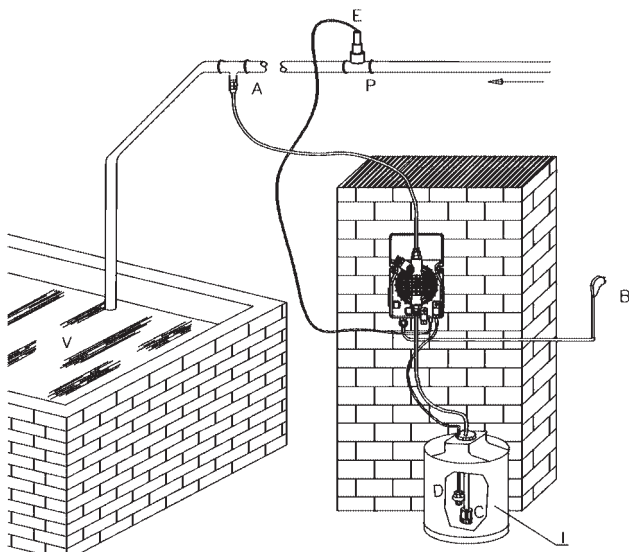

Fig. 16
7.2 - INSTALLATION TYPE (Fig. 16)